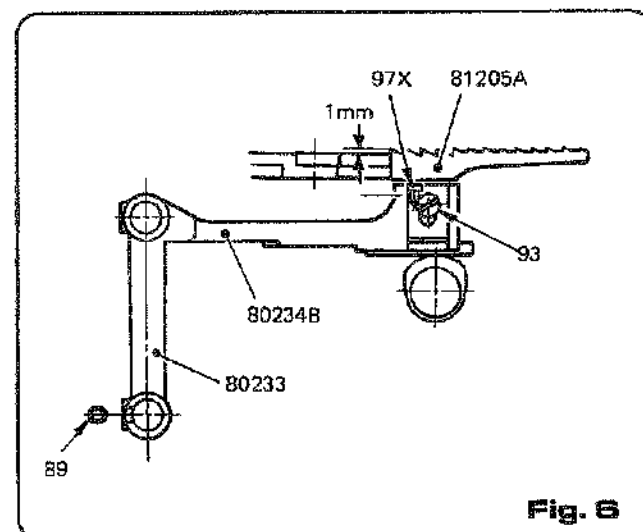

Fig. 6
The height of the feed dog is correct when, at its highest point of travel, the rearmost teeth project above the throat plate by 1mm as shown in (Figure 6). This can be accomplished by removing the feed dog (81205A), then adjusting the screw (97X) of the feed bar (80234B) to obtain the required height. Fasten the feed dog set screw (93) after ensuring that the feed dog is contacting the screw (97X). To adjust the feed dog within the throat plate (81224IW), ensuring uniform clearance between the rows of teeth and the throat plate grooves, loosen the set screw (89) of the feed rocker (80233), and adjust the feed rocker as necessary.
a) 上下の調整 (Fig. 6)
b) 左右の調整 (Fig. 6)